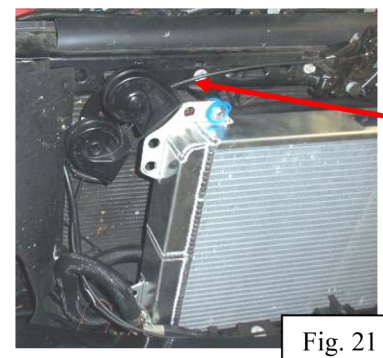

Fig. 21
22. Using one of the supplied zip ties, attach the hood release cable to the horn relocation bracket (Fig. 21). If you purchased an 80284NDP (non-fan Heat exchanger) skip to step 30.